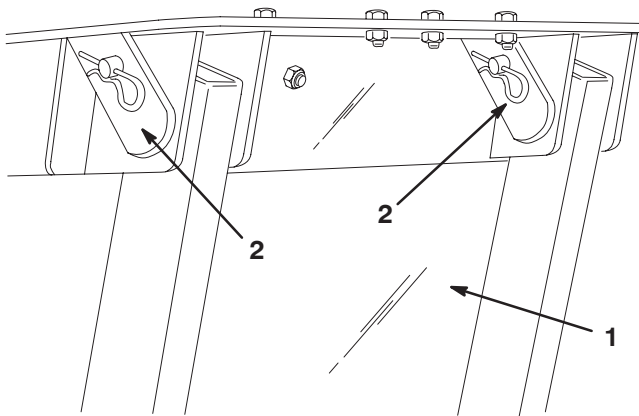

Figure 17
1. Remove the tie straps securing the tie rods to the hopper arms. Install (2) 5/16 – 18 x 1" lg. carriage bolts and flange nuts in hopper arm holes where tie straps previously were.
2. Slide the hopper assembly (hopper cover to rear) into the side frame while aligning the mounting holes in hopper with the holes in frame (Fig. 17).
3. Secure the hopper to the frame with (2) welded mounting pins and hair pin cotters (Fig. 17).